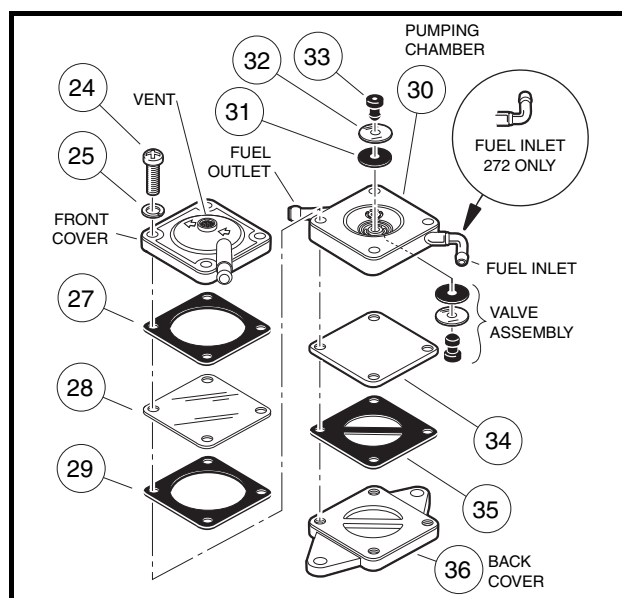
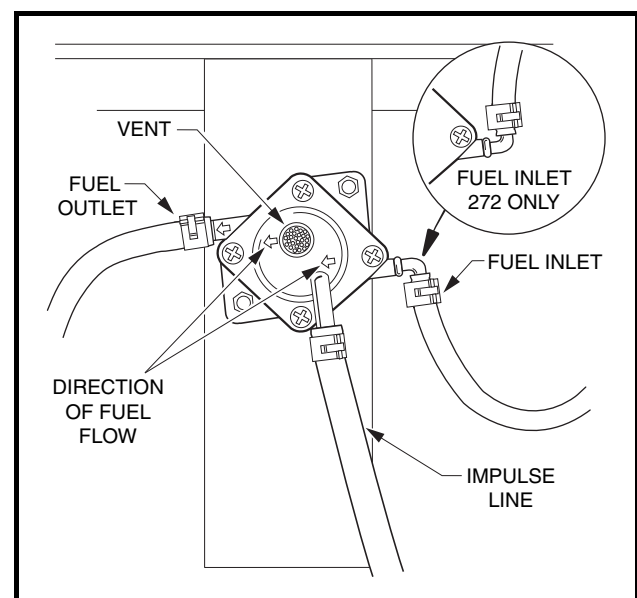

Figure 14-12 Fuel Pump
Figure 14-13 Fuel Pump Mount
1. Remove four screws (24) and lockwashers (25) from front of the fuel pump (**Figure 14-12, Page 14-20**).
3. Note the orientations of the impulse gasket (27), the diaphragm (28) and the gasket (29), then remove them from the pump. **See following CAUTION.**
2. Inspect the valve assemblies (31, 32, and 33), gaskets and diaphragms for damage (**Figure 14-12, Page 14-20**).
3. If a valve assembly is damaged, the rubber retaining plug (33) and valve assembly must be replaced.
1. Install the fuel gasket (35) and diaphragm (34) on the back cover (36) (**Figure 14-12, Page 14-20**).
2. Install the valve assembly in the pumping chamber (30). **See following CAUTION.**
3. Install the pumping chamber (30) on top of the fuel diaphragm (34). Be sure the fuel inlet and the fuel outlet align with the arrows on the front of the front cover (**Figure 14-12, Page 14-20**).
4. Install the gasket (29), clear impulse diaphragm (28) and the paper impulse gasket (27) to the pumping chamber (30).
5. Install the front cover and then the lockwashers (25) and four screws (24) on the assembly. Be sure the arrows on the front cover point from the fuel inlet to the fuel outlet (**Figure 14-13, Page 14-20**). Tighten the screws to 26 in-lb (3.0 N·m).